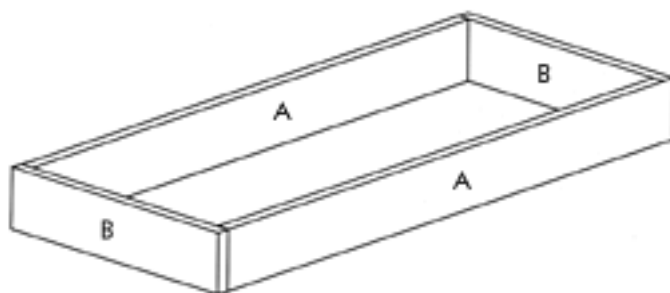

Figure 1
Cut four Long Sides (A) from 1 x 4 pine x 34-1/2" long. Cut four Short Sides (B) 1 x 4 pine x 15" long. Place two of the Long Sides (A) on edge, parallel to each other and 13-1/2" apart. Fit two of the Short Sides (B) over the ends of the Long Sides (A) to form a rectangle 36" x 15", as shown in figure 1.